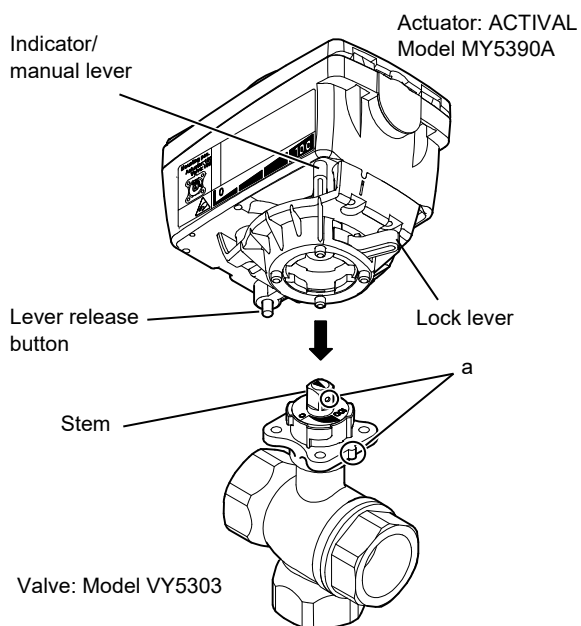

Figure 9. Mounting Model MY5390A actuator on Model VY5303 valve
- The actuator can be horizontally rotated every 90 degrees to fit into the valve mounting position (4 mounting positions). Make sure the positions of the actuator and the valve. (see Fig. 9.)
When valve is in 100 % position, the hole on the side surface of the valve stem faces in the same direction as the raised part of the valve joint surface points, as shown in 'a' in Fig. 9.